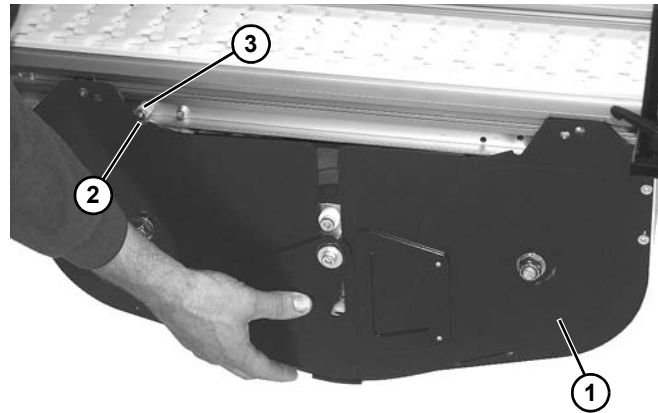

Figure 63
4. Raise weighted take up assembly (**Figure 63, item 1**) with notch (**Figure 63, item 2**) in assembly mating with stud (**Figure 63, item 3**) on conveyor frame.